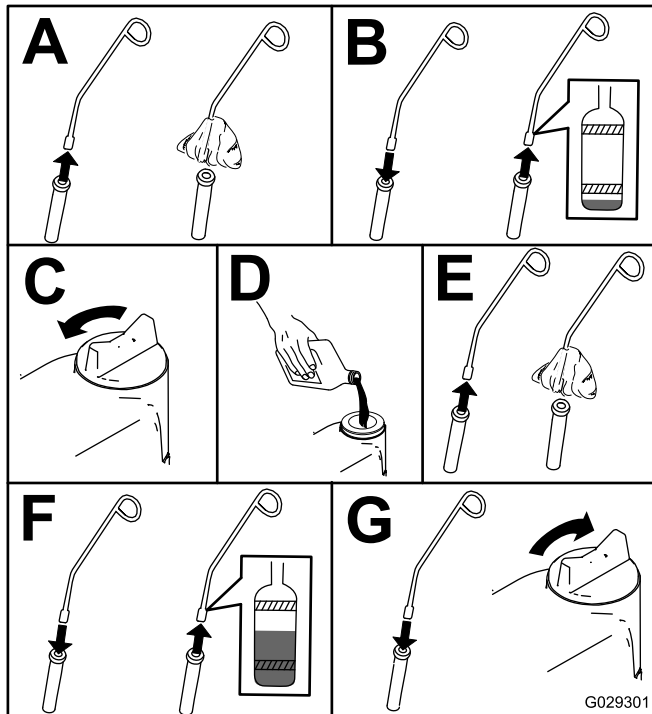

**Figure 25**
4. Clean around the oil dipstick and oil-filler cap (Figure 25).